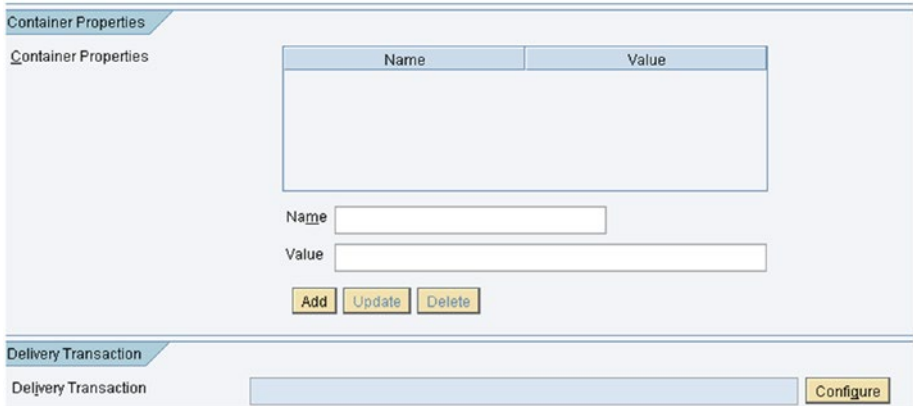

Figure 7-101. Delivery Transaction configuration
8. Choose a delivery transaction that will be triggered once the alert is raised to inform the concerned users about the alert. See Figure 7-101.